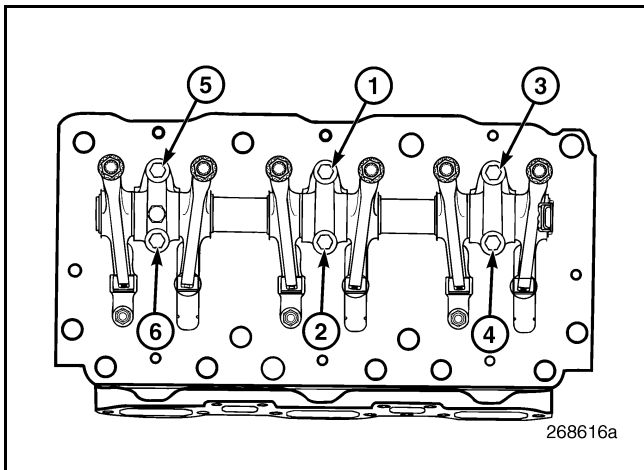

Figure 385 — Rocker Shaft Assembly Capscrew Tightening Sequence
6. Beginning at the center mounting bracket with capscrew No. 1, tighten the capscrews in the sequence shown in Figure 385. Tighten the capscrews to the specified torque, 45 lb-ft (61 N·m), using an accurately calibrated torque wrench J 24407, or equivalent.